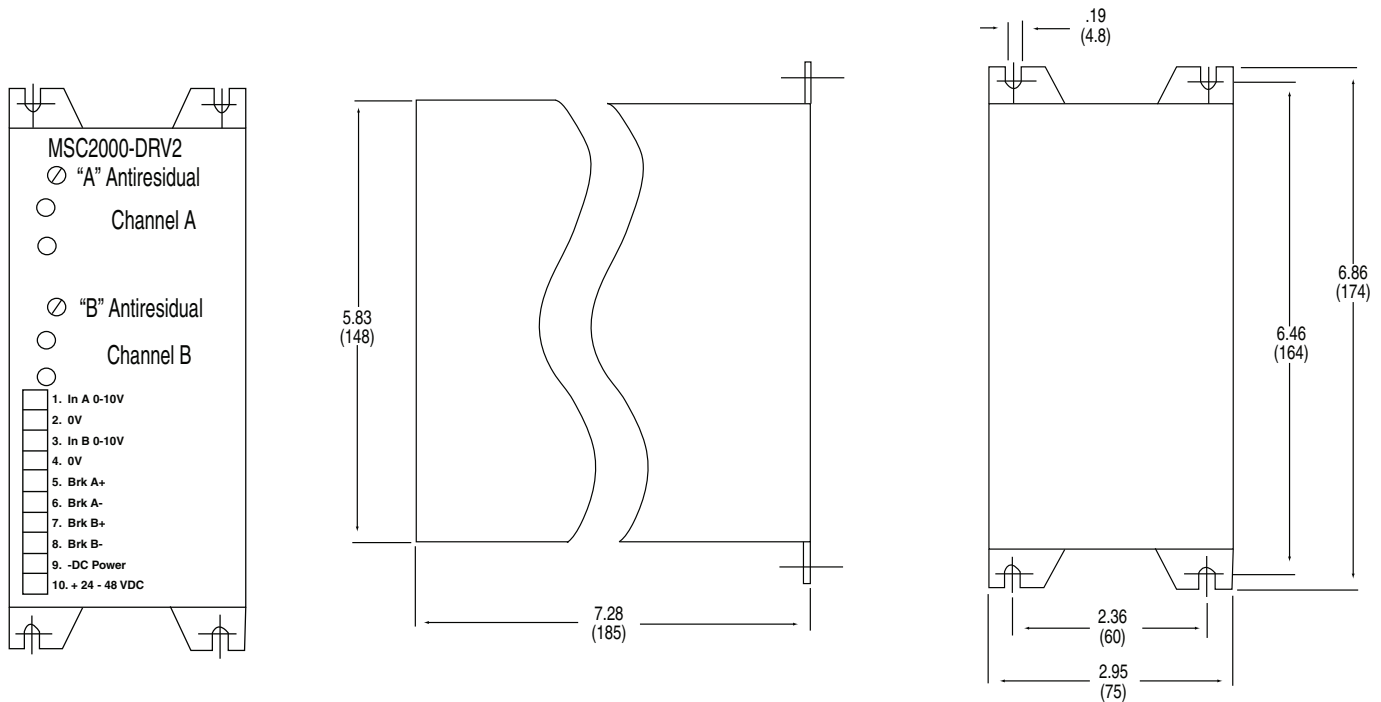

Figure 1
- 1. Using the dimensional data from Figure 1, drill and tap 4 mounting holes for either 4.5 mm screws or #10 screws on the panel or mounting surface the drive will be mounted to.